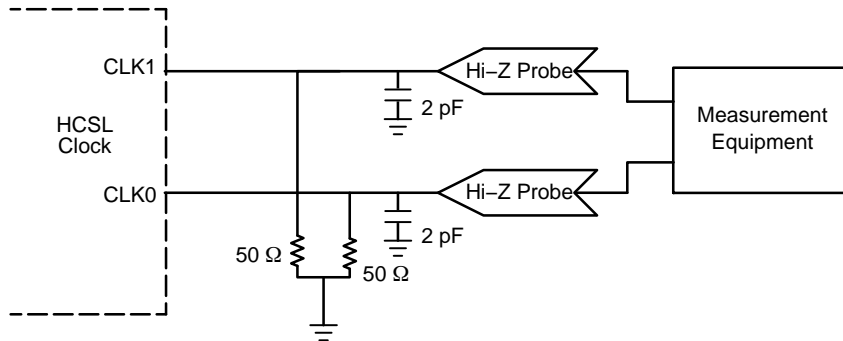

Figure 8. HC SL Parameter Measurement
6. Measurement taken with outputs terminated with $R_S = 0 \ \Omega$, $R_L = 50 \ \Omega$, with test load capacitance of 2 pF. See Figure 8. Guaranteed by characterization.